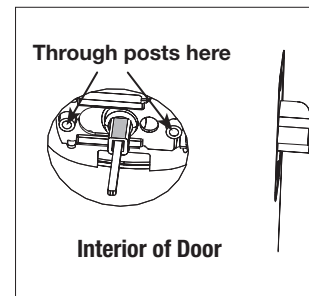

Figure 10
7. Secure both assemblies by inserting (2) M4 x 25.4mm pan head machine screws through the mounting plate and into the slightly extended **through posts** of the exterior escutcheon (Fig. 10).